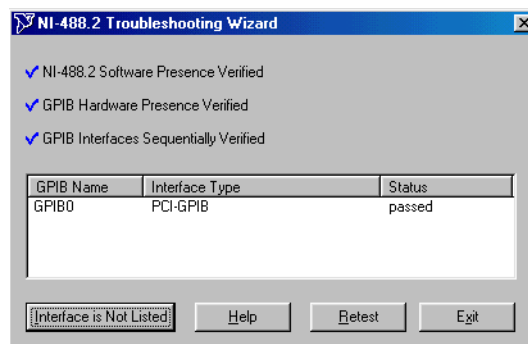

Figure 2–5 NI-488.2 Troubleshooting Wizard
5. When the software, hardware and interfaces have been verified, as shown in *Figure 2–4 NI-488.2 Troubleshooting Wizard*, click **Exit**.